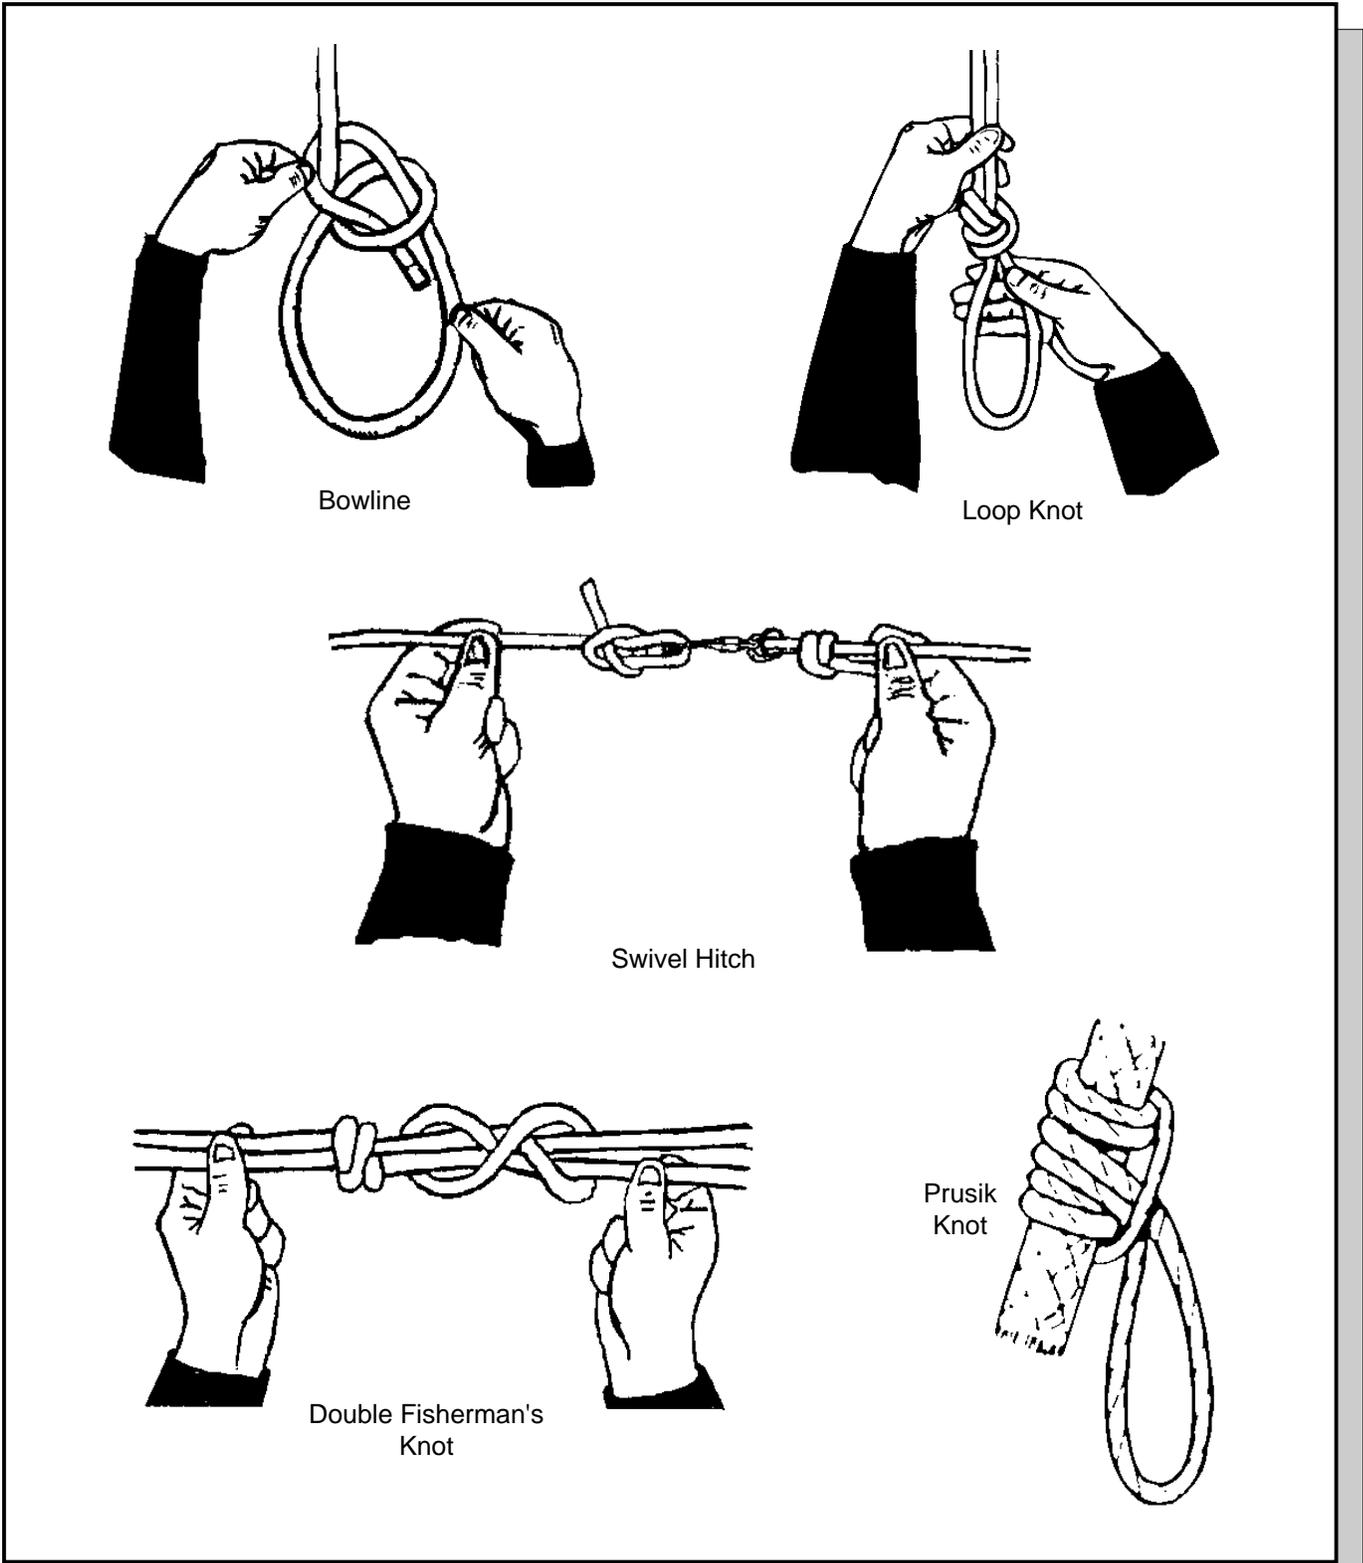

Figure 3.—Useful knots.
**Knots:** Knots can make or break your hoist system, and their proper use is the mark of a professional. There are many knots to choose from, but here are a few favorites (Figure 3). A loop knot can create a loop anywhere in the line, useful for attaching a block directly to the rope without carabiners, or for attaching a fence stretcher or cable hook.